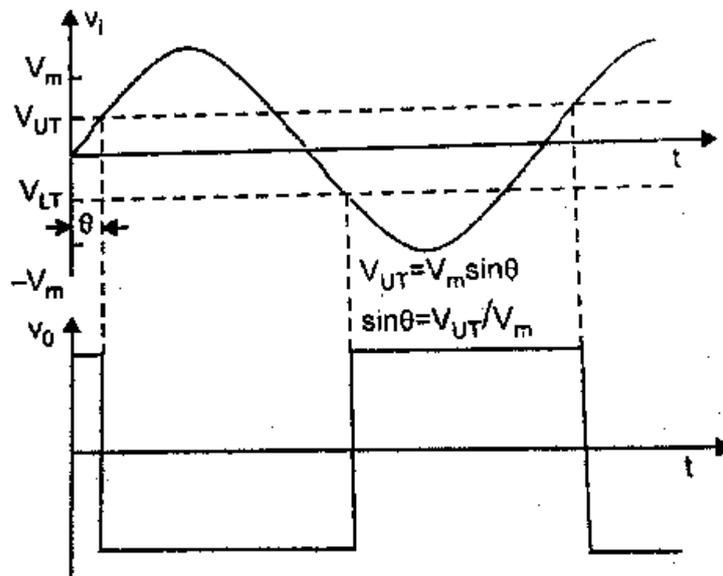

Fig. 3.29 Shift θ in the output waveform for $V_{UT} = -V_{LT}$
- The vertical edge of the output waveform however will not occur at the time the sine wave passes through zero but is shifted in phase by θ where $\sin \theta = V_{UT}/V_m$ and V_m is the peak sinusoidal voltage as shown in Fig. 3.29.